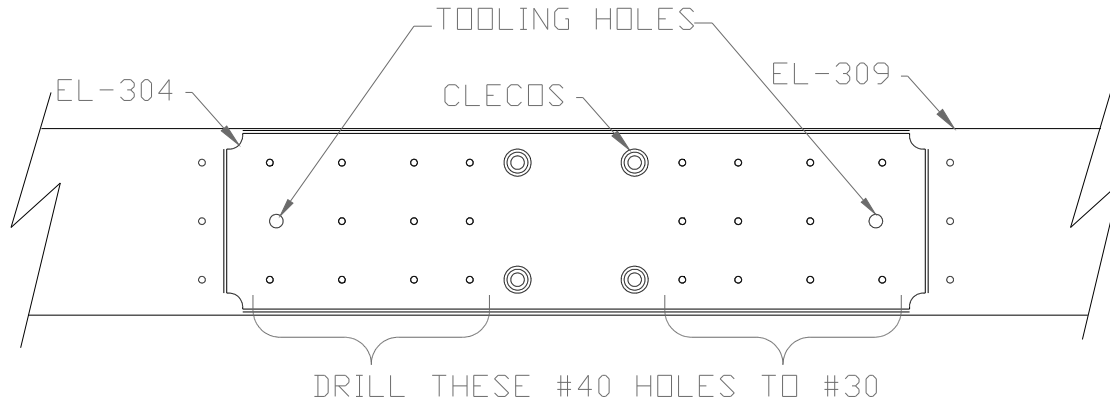

Figure 3.1.1
- 2) Using the four 3/16" holes, cleco the Elevator Center Doubler (EL0304) to the center of the Elevator Spar (EL0309). Drill all #40 holes into the doubler that are within the area of EL0304, using EL0309 as a guide. Drill these #40 holes to #30. Figure 3.1.1.